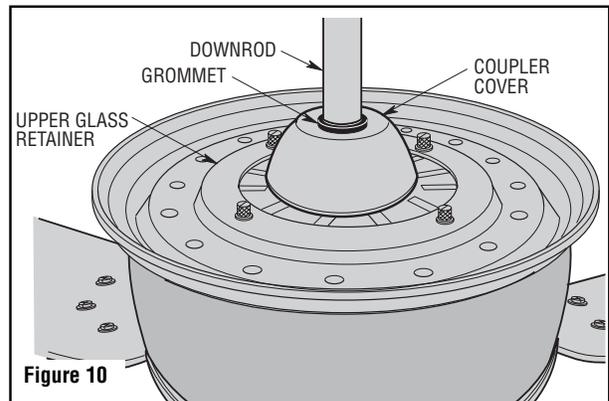

Figure 10
12. Make sure the grommet is properly installed in the coupler cover, then slide the coupler cover on the downrod until it rests on the motor housing (Figure 10).